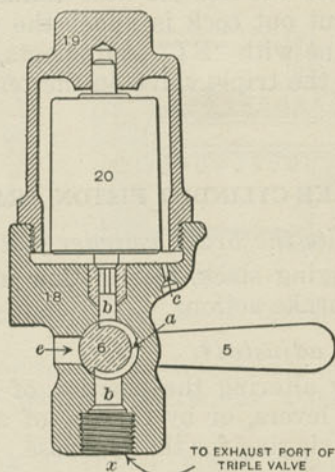
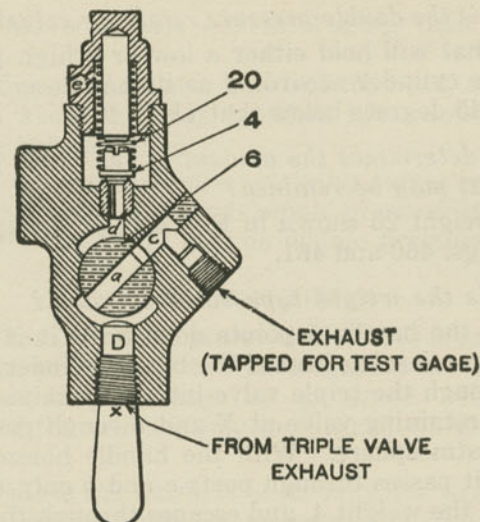

Fig. 459. Single Pressure Weight Type Pressure-Retaining Valve.
Fig. 460. Single Pressure Spring Type Pressure-Retaining Valve.
*A. To the triple valve exhaust port, through x (Fig. 459).*
A. The weight 20 shown in Fig. 459, or the spring as shown in Figs. 460 and 461.
A. When the handle 5 points downward it is inoperative; and in releasing brakes the brake cylinder air discharges through the triple valve into the retaining-valve pipe to the retaining valve at X and through ports *a*, *b*, *e*, into the atmosphere. With the handle horizontal as in Fig. 459 it passes through ports *a* and *b* only (*e* being closed) lifts the weight 4, and escapes through the port *c* until the brake cylinder pressure is down to the pressure for which the valve is designed, when the valve seats; the pressure stays in the brake cylinder until the handle 5 is turned down.